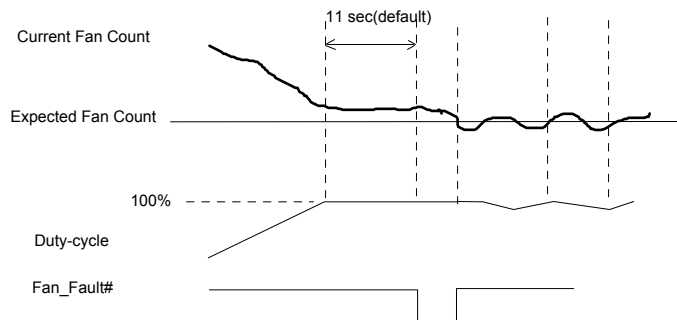

Figure 13 FAN\_FAULT# event
(1). When PWM\_Duty reaches 0xFF, the fan speed count can't reach the fan expected count in time. (Figure 13)